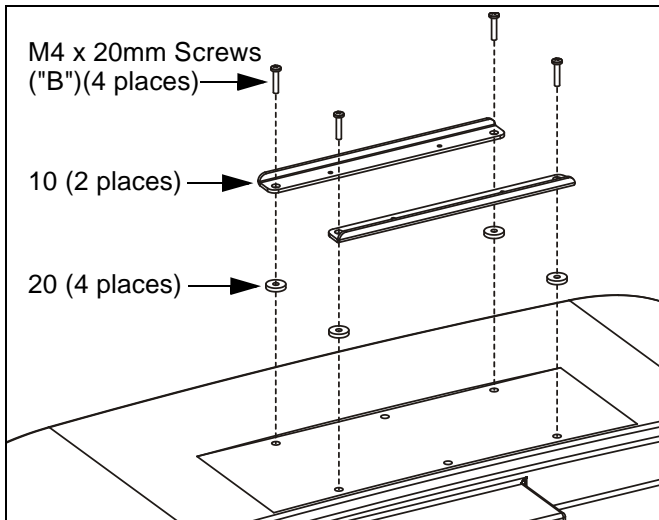

Figure 2: Install Adapter Brackets
3. Using Phillips screwdriver, carefully install four M4 x 20mm screws ("B") through brackets (10) and spacers (20) into display mounting holes (See Figure 2). Tighten screws. Ensure proper orientation of brackets (10).